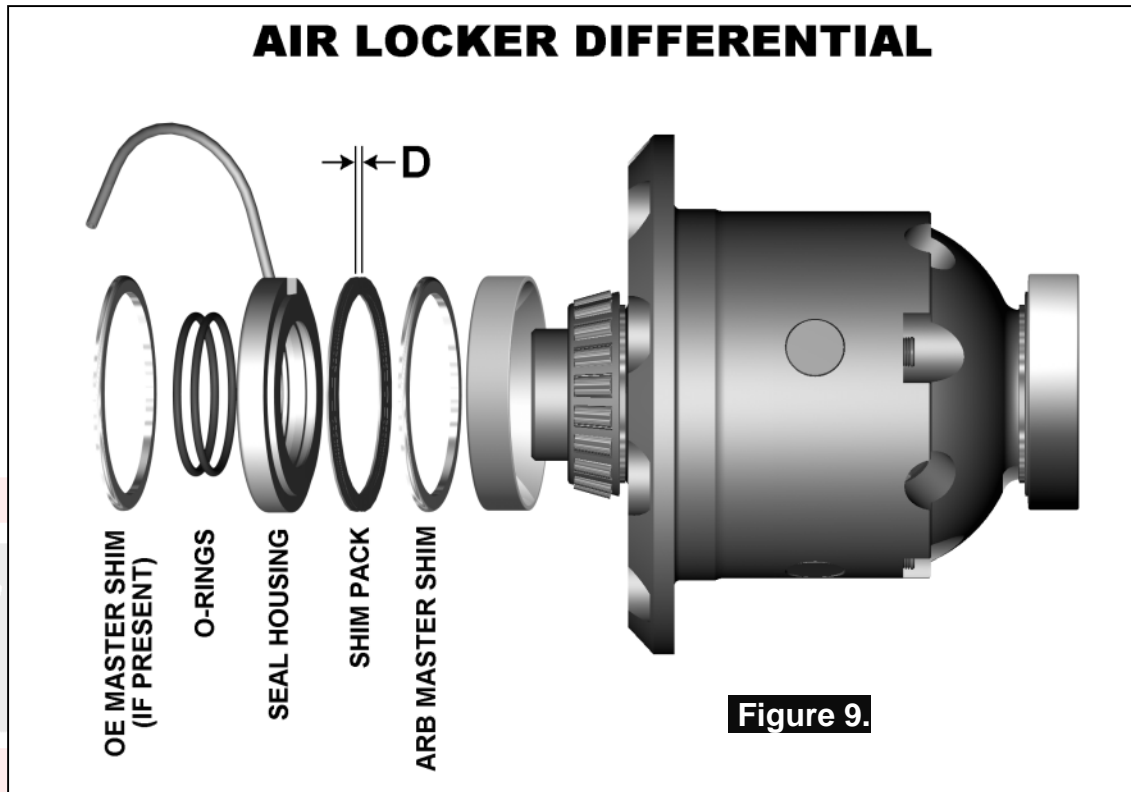

Figure 9.
In order to pre-load the tapered roller bearings in your *Air Locker*, measurements need to be taken so that a value can be calculated for the shim thickness 'D' in Figure 9.
- Add the specified pre-load amount to the measurement taken with the feeler gauge to determine a shim amount for 'D' in Figure 9.
- Install the shim pack 'D' between the ARB master shim and the seal housing as shown in Figure 9.
- To decrease the amount of backlash, reduce the shim thickness 'B' (Fig.7.) and increase the shim thickness 'D' (Fig.9.) by the same amount. Reverse this step to increase the backlash.